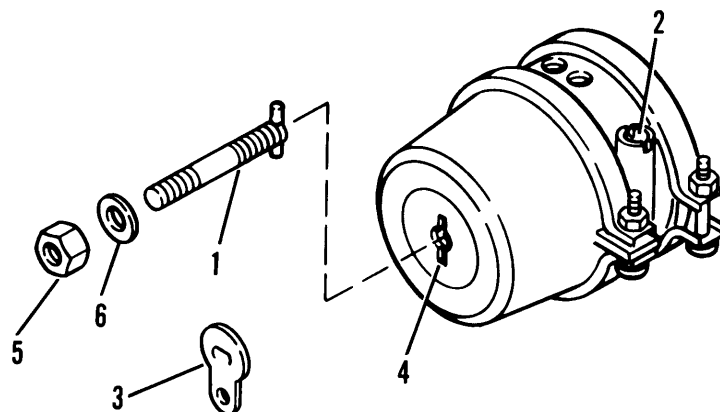

Figure 2-30. Caging Spring Brake Chamber
- b. Remove plug (3, fig. 2-30) from spring brake chamber.
- c. Remove nut (5) and washer (6). Remove spring brake tool (1) from mounting hole (2) in spring brake chamber.
- d. Insert spring brake tool (1) through opening (4) in brake chamber. Turn release tool (1) 1/4 turn clockwise to lock in manual release position.
- e. Install washer (6) and nut (5) on spring brake tool (1). Tighten until 2 1/2 to 2 3/4 inches of spring brake tool (1) is exposed.